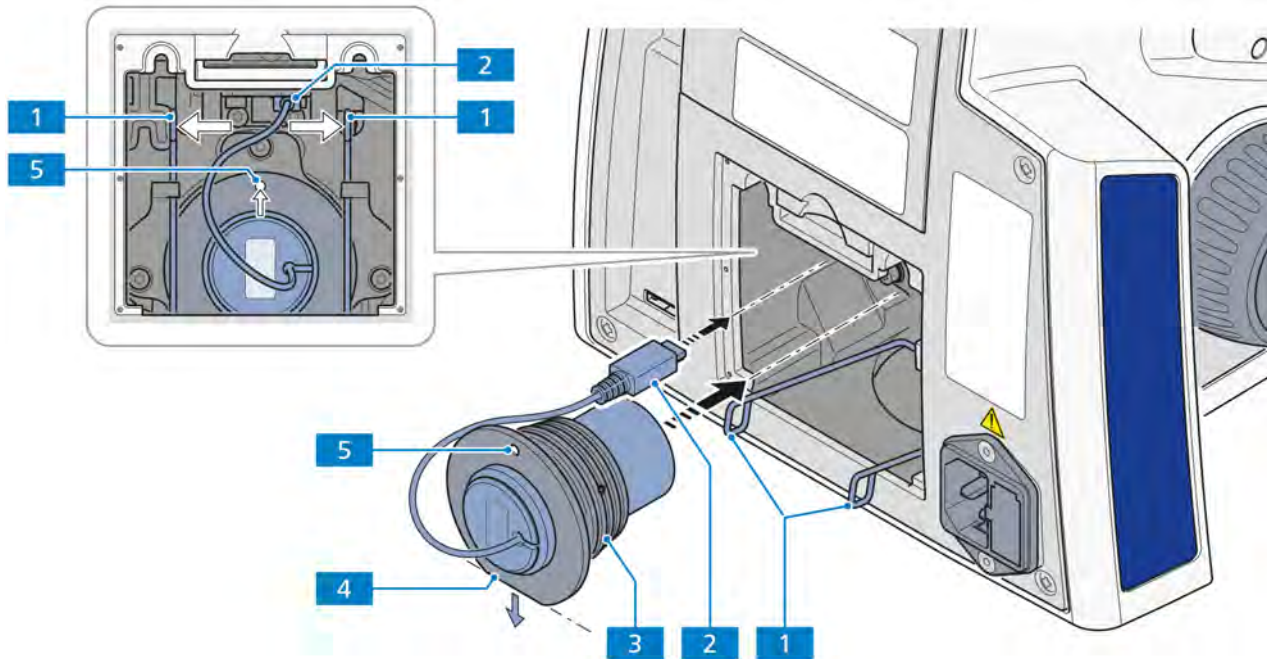

Fig. 3-19 Inserting the LED illuminator
- Insert the new LED illuminator with the adapter (Fig. 3-19/3) into the holding tube up to the stop.
- Position the new LED illuminator with the pinhole (Fig. 3-19/5) at the top, or with the adapter lower front edge (Fig. 3-19/4) aligned between the contact surface and securing clips.
- Plug the illuminator plug (Fig. 3-19/2) into the connector of the stand.
- Lift the securing clips (Fig. 3-19/1) of the lamp holder until they are completely enclosed in the lamp holder. In doing so, slightly press the ends of the securing clips together and guide past the two upper retaining elements. Release the pressure until the clamping bracket opens and engages on both sides in the retaining elements.